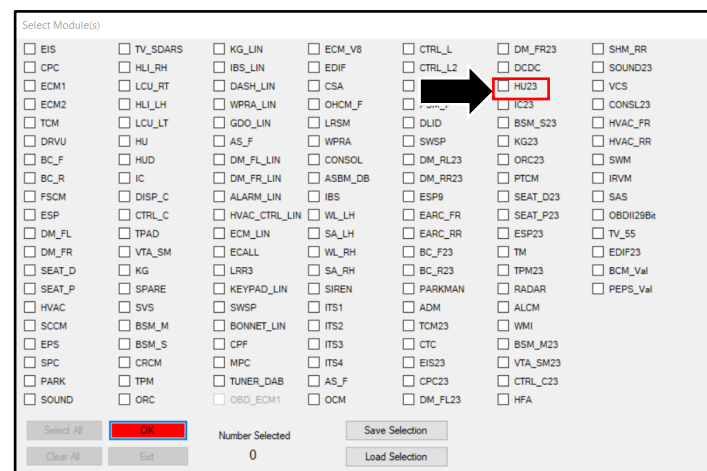

Figure 14
26. Select the "HU23" module then click the "OK" button (refer to Figure 14).